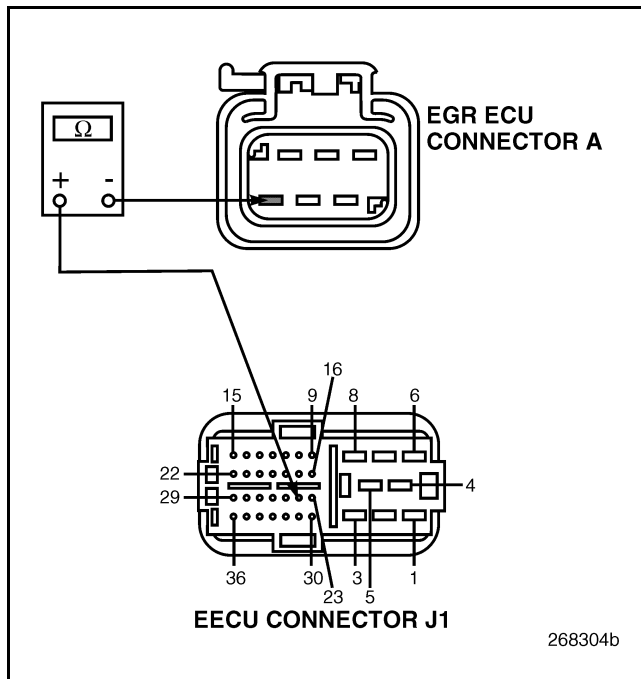

Figure 601
4. Measure the resistance between EECU connector J1 pin 24 and EGR ECU connector A pin 6 (see Figure 601).